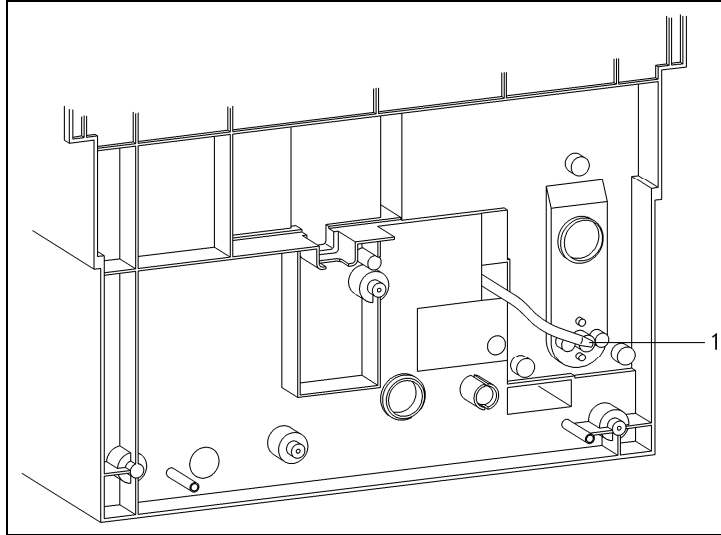

Figure 5-45: Underside View of the CVA 610 with Base Plate and Drip Tray Removed
6. Disconnect the lower part of the valve connections. See Figure 5-45, Item 1.